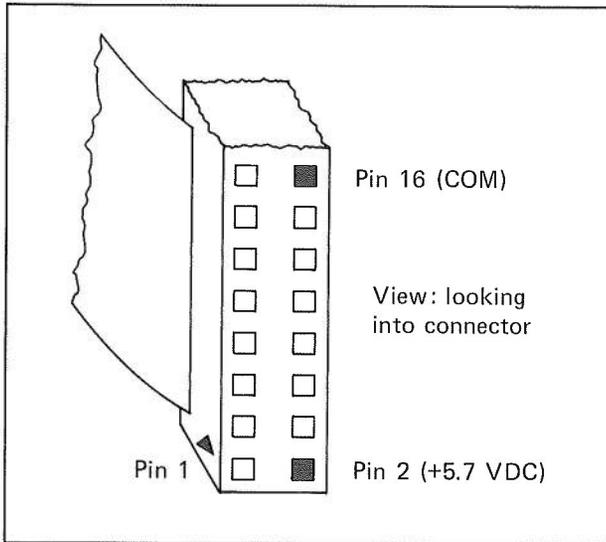

Figure 7 – 50-pin Female Connector on Cable
Step 12 – Locate pin 2 (+5.7 VDC) and pin 16 (COM) on the connector of the Distribution Panel Cable. (See Figure 7.) Use a digital voltmeter to adjust the external power supply output voltage for +5.7 VDC (± 0.05 V).